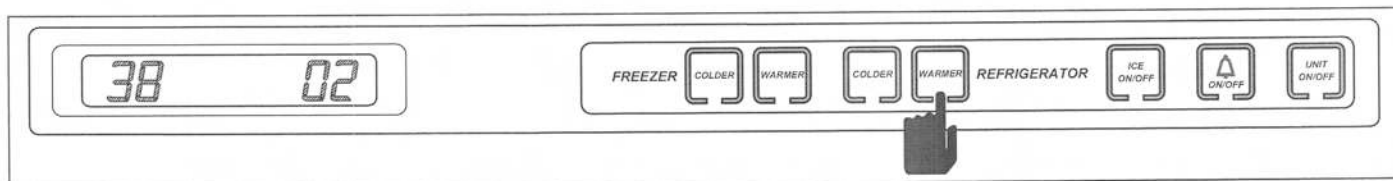
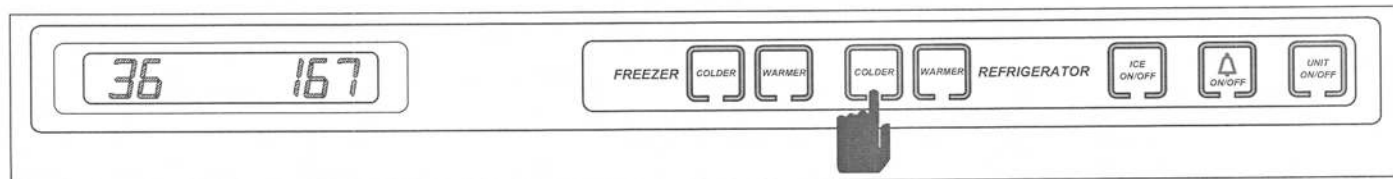

**Figure 3-47. Initiate Temperature Log Recall Mode To View Compartment Temperature History Only - Press and Hold Desired WARMER Key, Then Press UNIT ON/OFF Key**
**Figure 3-48. Thermistor Location Code Flashes Every Three Seconds**
**Initiate Temperature Log Recall Mode To View Compartment Temperature History Only** - Begin with the unit ON. Now, press and hold the desired compartment WARMER key, then press the UNIT ON/OFF key, then release both keys (See Figure 3-47). The left display area on the LCD will show average compartment thermistor temperature and in the right display area will be the index number. The first index number will be "1", indicating the most recent two-hour temperature average. The right display area will also flash the thermistor location code at 3 second intervals (See Figure 3-48).